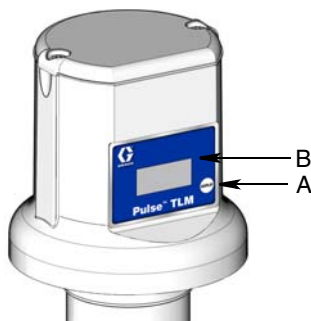

FIG. 2
2. Press and hold the Display button (A, FIG. 2) until display (B) reads "REGISTER".